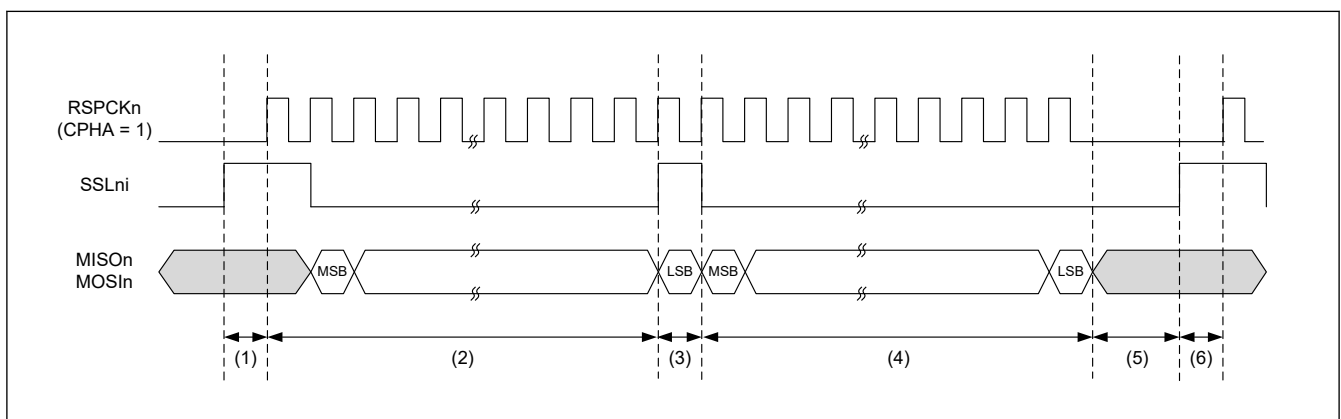

Figure 44.59 Example of Burst Transfer Operation (SPFRF = 1)
- When the SSL_{ni} signal level holding bit (SSLKP) of the SPI command register (SPCMD) is 1 and the burst transfer frame delay selection bit (BFDS) of the SPI control register (SPCR) is 1, SPCMD0 to SPCMD1 are shown in Figure 44.59. The following shows an example of SSL_{ni} signal operation and serial data MISO_n/MOSI_n when burst transfer is realized using the settings. The SSL_{ni} output signal polarity depends on the set SPI SSL_i signal polarity bit (SPCR3.SSLiP) (i = 0 to 3) value.